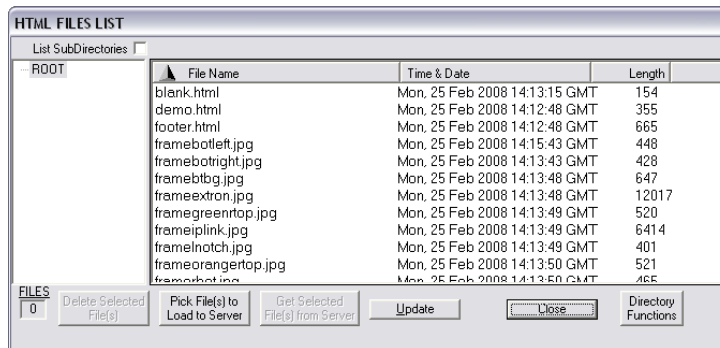

Figure 76. HTML Files List Window
You can create customized HTML pages for the switcher to display. The HTML Files List window (see figure 76) provides a way to view the contents of the switcher file system and to upload custom HTML pages to the switcher.
- The files listed in figure 76 are shown for example only and may not be present on your switcher.